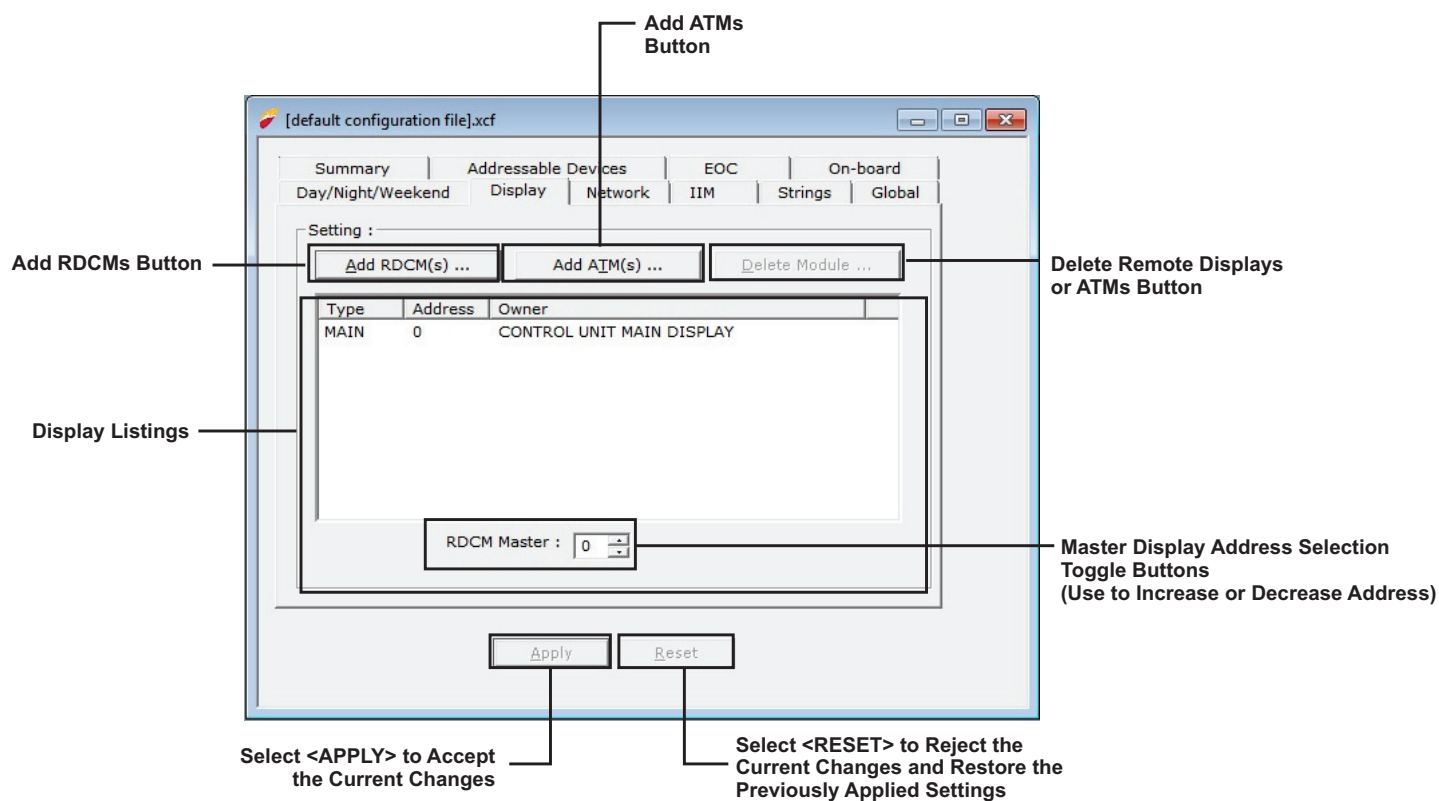

Figure 2-39. Peripheral-Devices Main Configuration Screen
Select the "Display" Tab; Figure 2-39 displays.
1. Highlight the device in the listings area of the Display Screen (Figure 2-39).